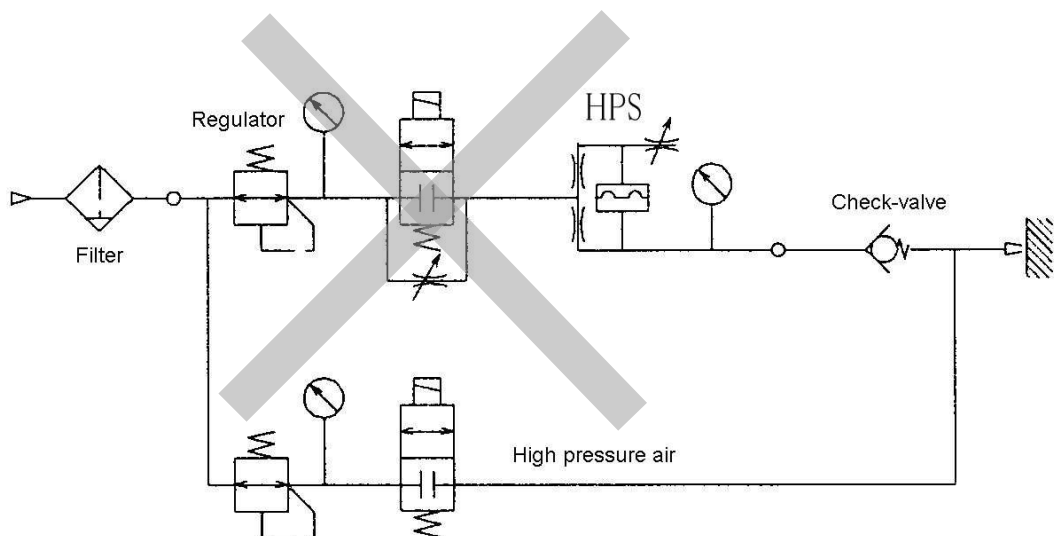

Figure 35 Using check-valve
- 7) If you might perform an air-blow operation at the detection nozzle, do not use the pneumatic circuits given in Figs. 35 and 36. With the circuit given in Fig. 35, the cracking pressure at the check valve may disable detection at the higher end of the detection distance range.